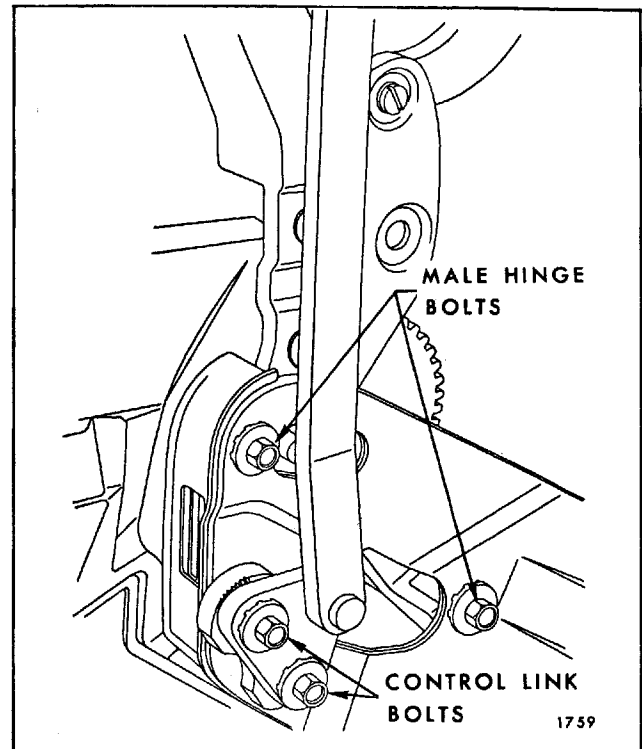

Fig. 6-88—Male Hinge Adjustment
1. To tighten or increase locking action, turn lock hook clockwise (Fig. 6-88).
c. Loosen two bolts securing control link adjusting plate sufficiently to permit adjustment of plate (Fig. 6-88).
c. Loosen male hinge assembly and control link attaching bolts (Fig. 6-88).
- b. Loosen male hinge assembly and control link attaching bolts (Fig. 6-88).
2. Male hinge assembly misaligned.	Adjust male hinge assembly rearward (Fig. 6-88).
2. Male hinge assembly misaligned.	Adjust male hinge assembly forward (Fig. 6-88).